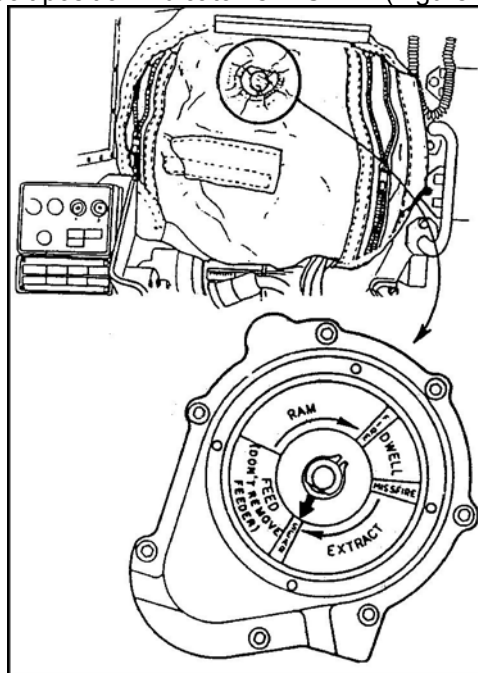

Figure 1. Bolt position indicator.
- d. Be sure that the gun bolt position indicator is in SEAR (Figure 1).